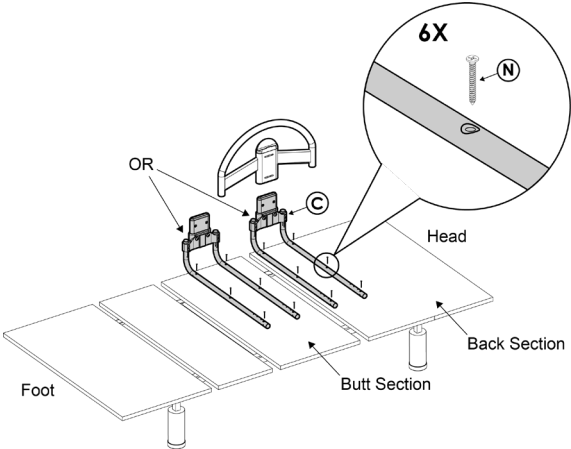

FIGURE 5.1
5.1. Attach assembly to Back Section or Butt Section of mattress base using **N** – do not overtighten screws. See *FIGURE 5.1* IMPORTANT: Installed rail must be at least **12.5"** from end of mattress. There should be no gap between **C** and mattress.